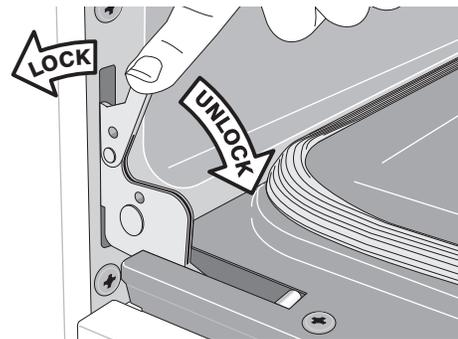

Figure 11: Door hinge locks
2. Pull the door hinge locks on both left and right door hinges down from the oven frame completely toward the oven door (See Figure 11). A tool such as a small flat-blade screwdriver may be required.
4. Push the door hinge locks up toward and into the oven frame on both left and right oven door hinges to the locked position (Figure 11).